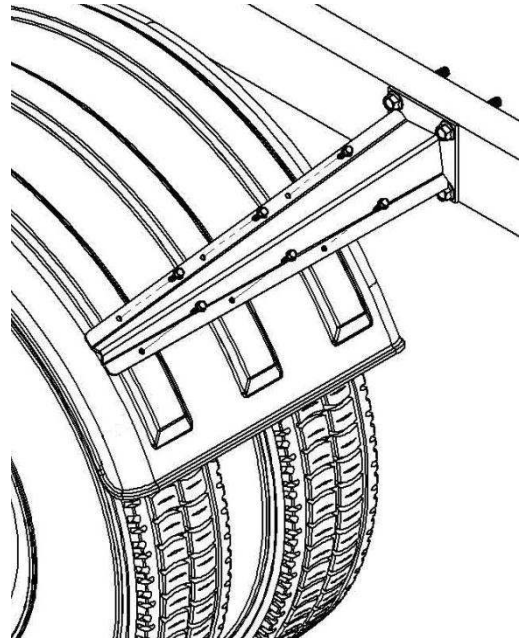

Figure 8
- Make sure the fenders are square and aligned (Figure 8). Twists or bows in the fender will fatigue the material over time.